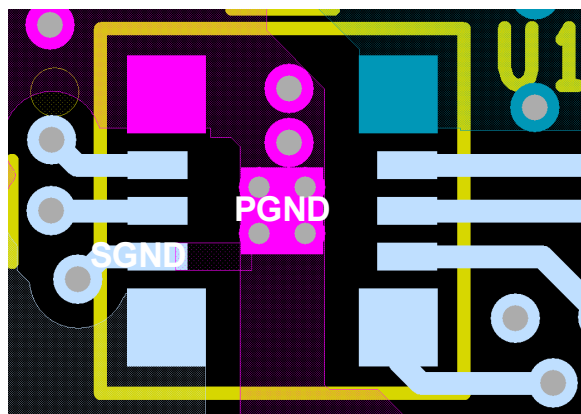

Figure 6. Layout Example - SGND is Connected to PGND at Single Point
- Use a separate SGND plane for components that are connected to SGND. Connect SGND and PGND at a single point on the top layer as shown in Figure 6.